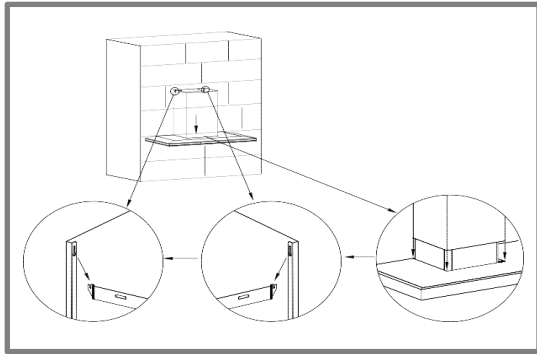
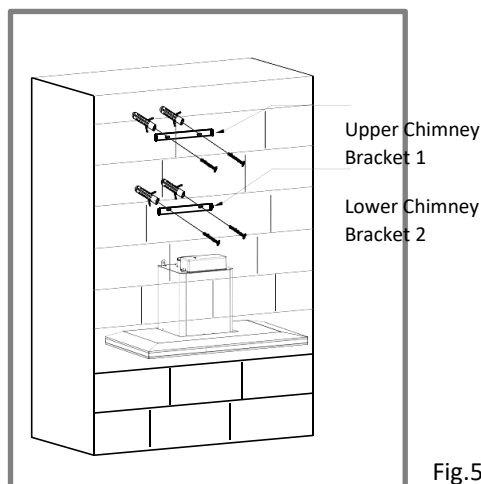
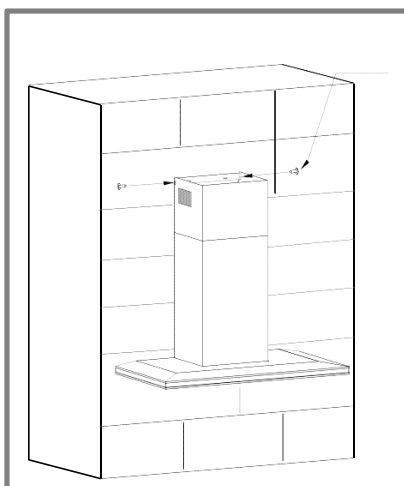

Fig.5
Fig.5.1
Fig.5.2
Step 4 (Fig.5, Fig.5.1, Fig.5.2)
- Secure the mounting bracket onto the screws firmly 1 & 2 and place the outer flue duct onto the appliances. (Fig. 5).
- Slide the outer flue duct section downwards, attached it to the left and right of the retaining bracket to engage it. (Fig. 5)
- Slide the inner flue duct to the required height and mark where the screws should be inserted and drill 8mm diameter holes to a depth of 40mm and secure the mounting bracket onto the screws provided. (Fig. 5.1)
- Use the provided ST4*8 screws to attach the inner flue duct on the left and right sides of the bracket. (Fig. 5.2)